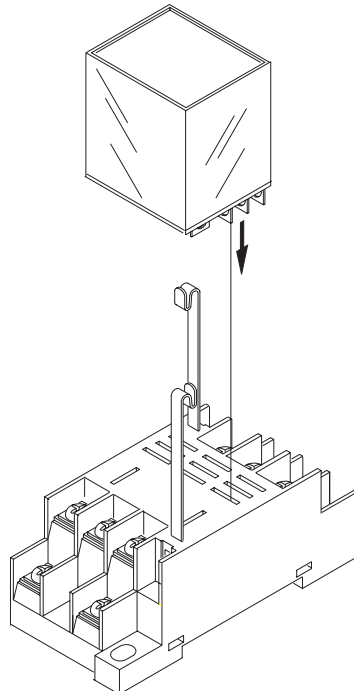

Figure 6
- Once a suitable location is determined, mark the screw holes onto the box. Drill the holes for the #6-32 x 5/8 pan head screws. Install the base into the box utilizing the (2) #6-32 x 5/8 pan head screws and (2) 11-176005-001 keps nuts.
- Insert 11-696644-000 relay into base and secure the clips over the top of the relay. Refer to *Figure 6*.